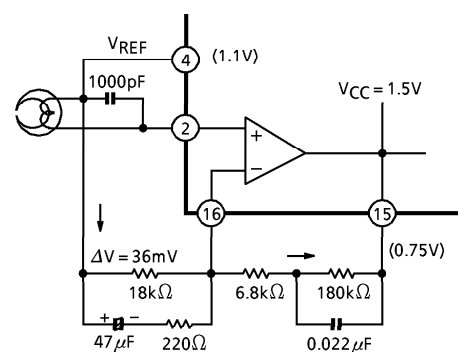

Fig.4 NFB terminal
The resistance of 18kΩ is advisable to be connected between NFB terminal (Pin⑬ and ⑩) and V_{REF} for using this IC. That is because NFB terminal is designed to have the off-set voltage ($\Delta V = 36\text{mV}$) against each terminal (Pin ②, ③, ⑤ and ⑥). Therefore, the DC potential of the output terminals (Pin⑮ and ⑪) can be set at about $V_{CC}/2$ with the current produced by this off-set potential. (Fig.4)